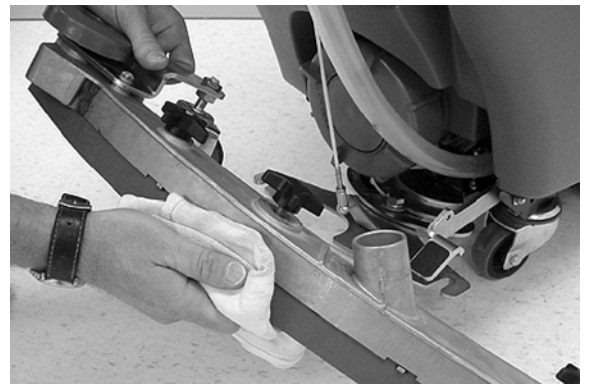

FIG. 48
- Wipe the squeegee blades clean (Figure 48). Store the squeegee assembly in the raised position to prevent blade damage.